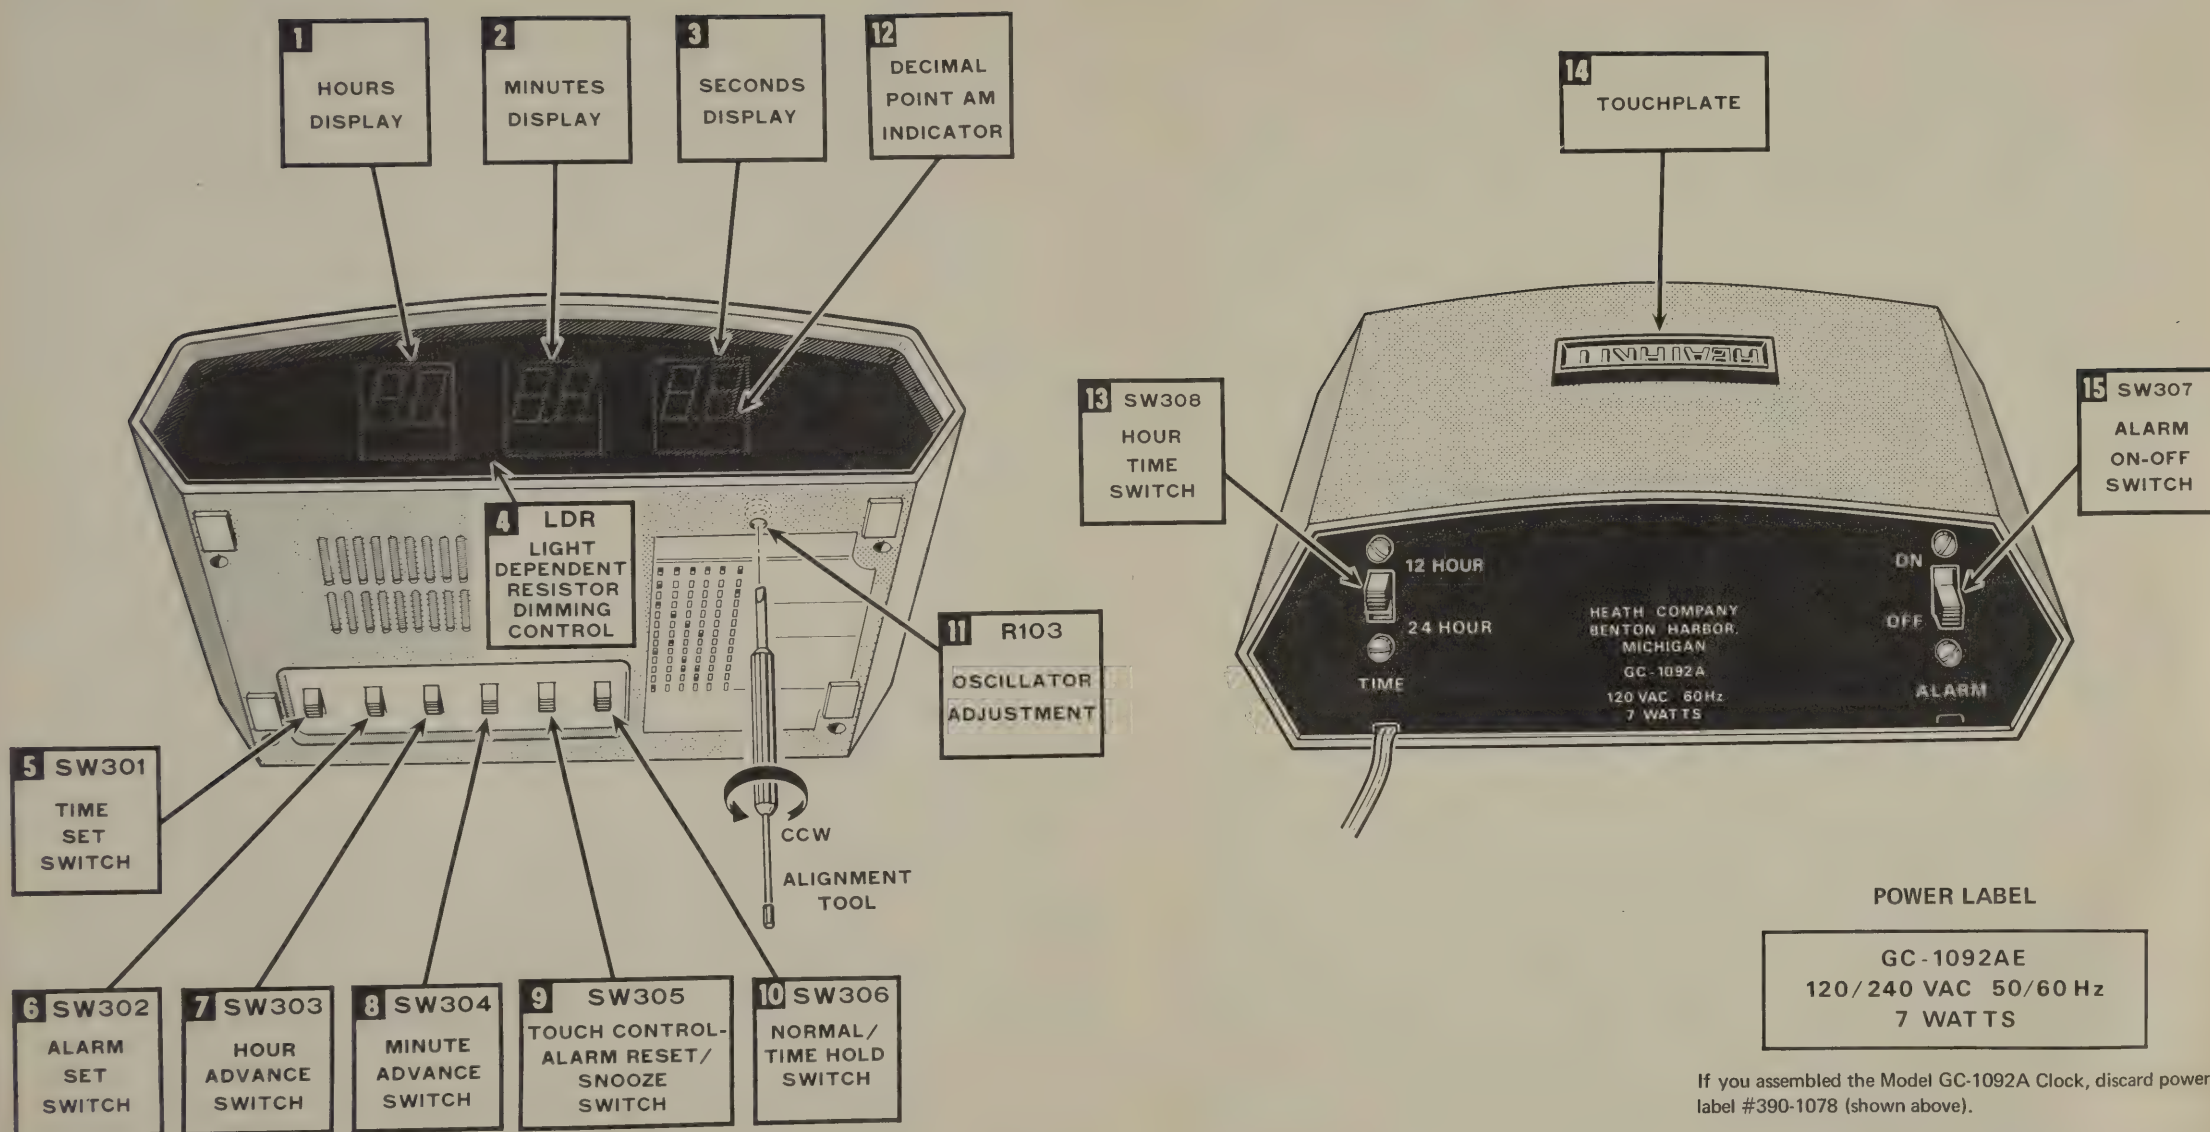

Figure 2
Refer to Figure 2 (fold-out from this page) to identify the function and location of each switch on your Clock.
3. Refer to the "Power Label" information on Figure 2.
Refer to Figure 2 for the following steps.
- () 1. R103: Carefully hold the clock in the position shown in Figure 2. Then, using the screwdriver end of the alignment tool or a small-blade screwdriver, turn control R103 fully counterclockwise. This should cause the display tubes to flash rapidly.
Figure 2 (fold-out from Page 48) briefly points out the displays and function switches of your Clock. These displays and switch functions are further described in the following paragraphs. **NOTE:** If you have fully charged batteries in your Clock and the AC power is interrupted, the Clock will continue to keep time but no display will occur. If battery power is also interrupted due to discharged batteries for example, the Clock will stop keeping time and the next display after AC power is restored will be 88:88:88.
Refer to the SETTING INSTRUCTIONS on the bottom of the Clock. The following numbered paragraphs refer to the correspondingly numbered boxes of Figure 2 and also more fully describe the switch functions obtained when the various switches are positioned according to the SETTING INSTRUCTIONS. All 8's will be displayed when the Clock is first plugged in.